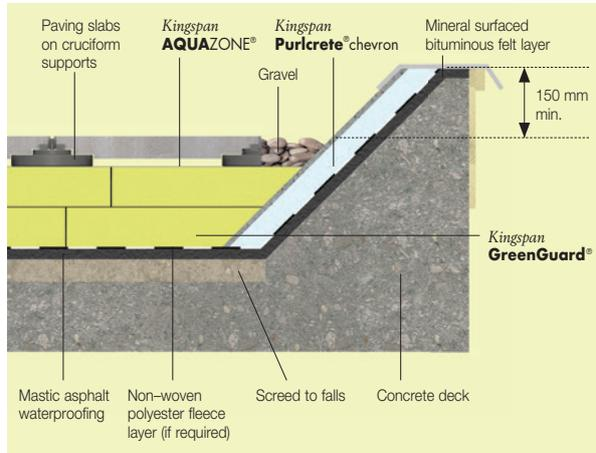

Figure 6 – Eave / Kerb Detail
- For best thermal performance, roof-lights and ventilator kerbs should be insulated with the same thickness of **Kingspan Purlcrete**[®]chevron, with a separate backing layer of **Kingspan GreenGuard**[®], as the general roof area (see Figure 6).
The use of Kingspan AQUAZONE® over the insulation (see Figures 6–11), can dramatically minimise heat loss by reducing the amount of rainwater that flows between and beneath the insulation boards.